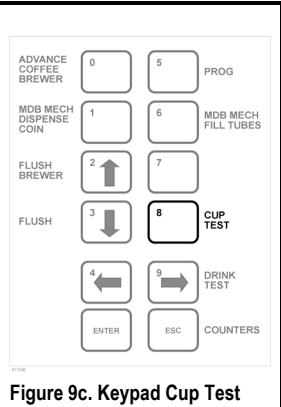

Figure 9c. Keypad Cup Test
4. Find the **internal** keypad on the left side of the door (as viewed from the rear of the door). Press the square marked "CUP TEST". See **Figure 9c**.